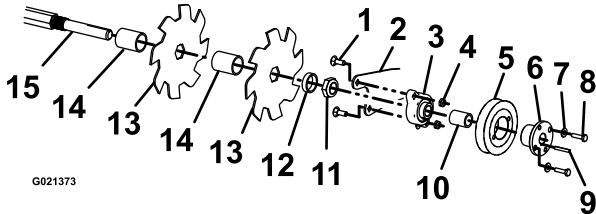

Figure 25
9. Remove the 4 carriage bolts and locknuts securing the cutting blade assembly (Figure 25), and remove it from the fork mounting bracket.
10. Remove the 2 bolts and washers attaching the pulley to the bearing. Loosen the setscrews on the bearing, and slide the key off the shaft (Figure 25). Remove the bearing and pulley by removing the bearing fasteners from the fork mounting bracket.